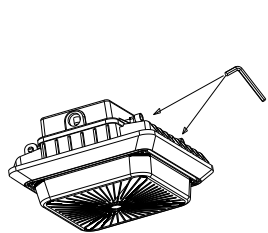

Figure 1-1
- 1.Disassemble the driver box cover by loosen the two screws on the driver box; Figure 1-1